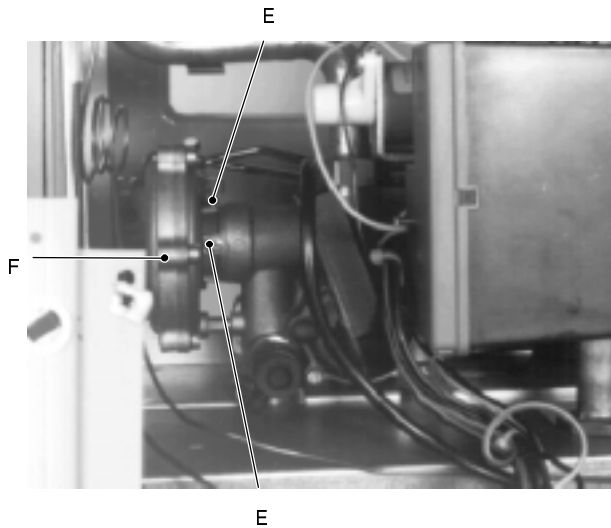

fig. 27
- 3 Loosen the screws E and remove the hydraulic actuator F (fig. 27).